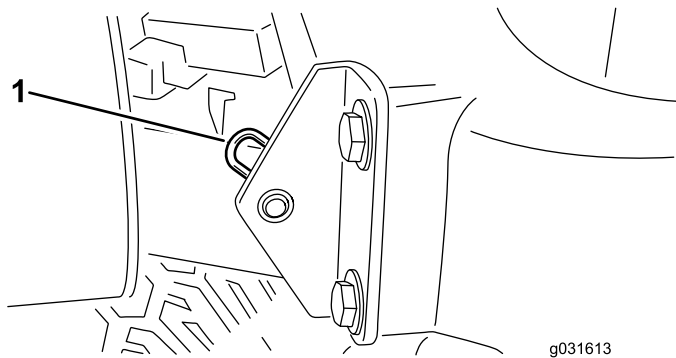

Figure 34
2. Remove the hairpin cotter securing the hood pivot to the mounting brackets (Figure 34).